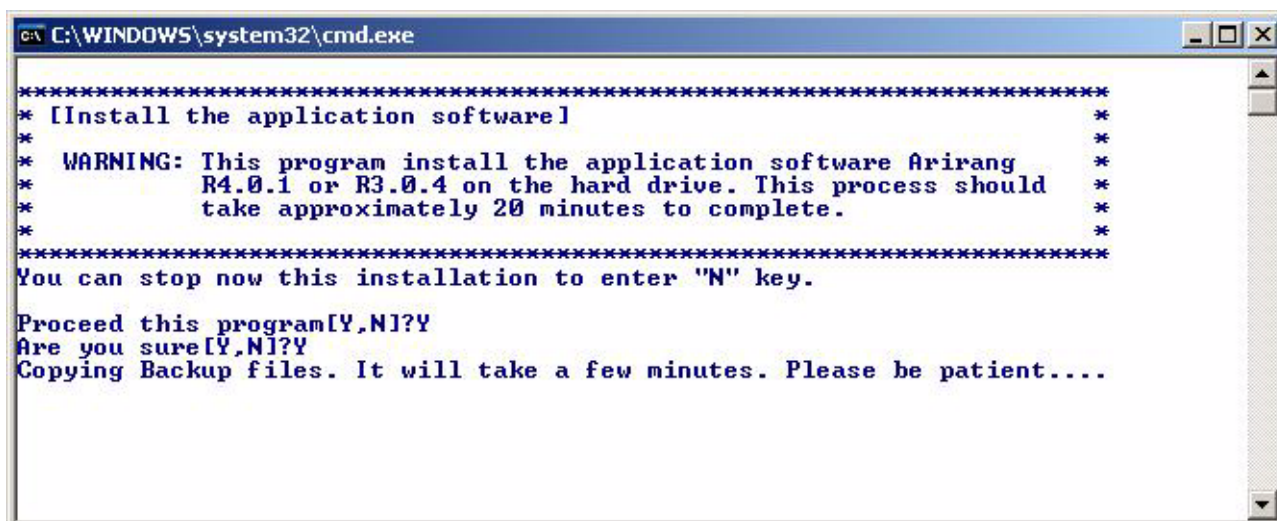

Figure 8-198 Command Window
- 5.) You will see a Command (CMD) window open as shown in the Figure 8-198.